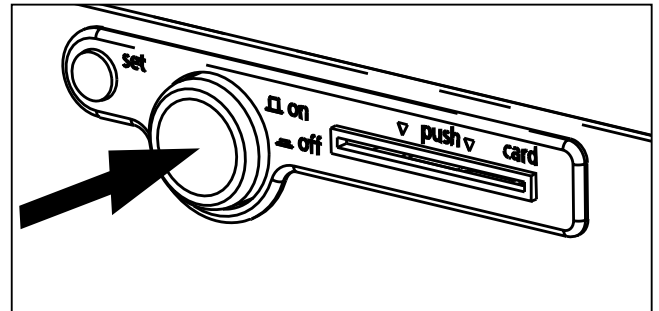

Fig. 19
- Switch on appliance by pressing the main switch on the front of the appliance (see Fig. 19 on page 27).
- ▶ Switching off: press the main switch so that it retracts back into the appliance (Fig. 19).